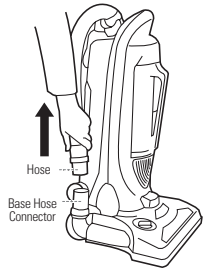

Fig. 12
2. Remove hose from base hose connector on the lower portion of the cleaner. (Fig. 12)